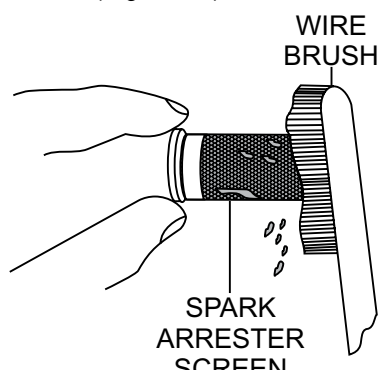

Figure 47. Cleaning The Spark Arrester
4. Carefully remove carbon deposits from the spark arrester screen (Figure 47) with a wire brush.